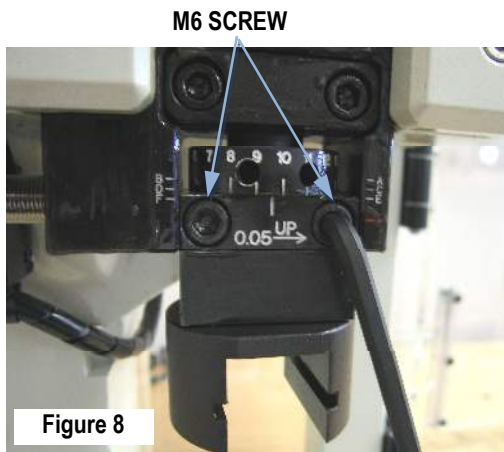

Figure 8
3. Install the JST\* yoke adapter in the press ram. Use a 5mm hex wrench to tighten the (2) M6 screws securely. See Figure 8.